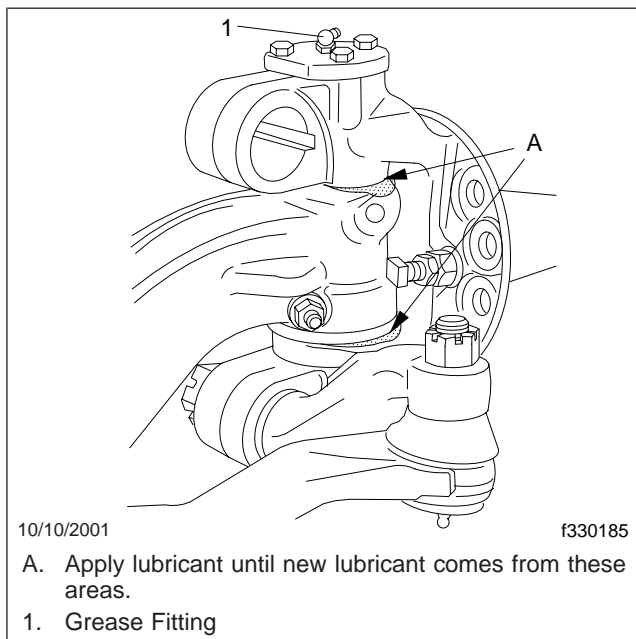

Fig. 2, Sealed, Easy Steer Kingpin Lubrication
- Using a multipurpose grease, NLGI grade 1 or 2, lubricate the kingpins through the grease fittings on the top and bottom of the knuckle. See Fig. 2.